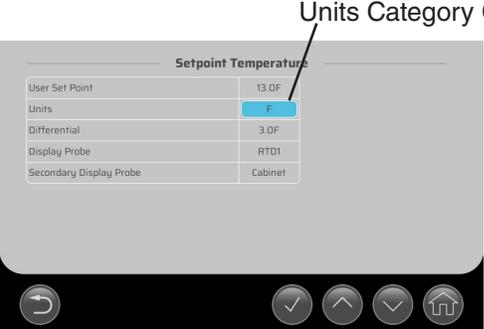

**Fig. 22**
- a) Press and release the center of the RTD1 probe temperature display. The touchscreen setup view is shown. See Fig. 22.